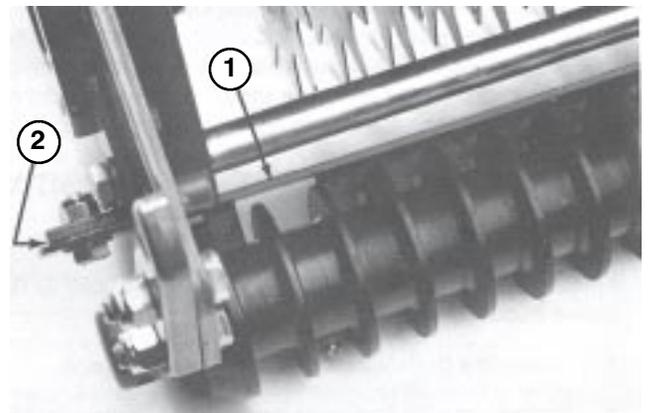

Figure 4
ADJUSTING FRONT ROLLER SCRAPER (Fig. 4)
1. Loosen the (2) capscrews securing front roller scraper to brackets. Slide front roller scraper to ensure the teeth of scraper are centered between the disks of the front wihle roller (Fig. 4).